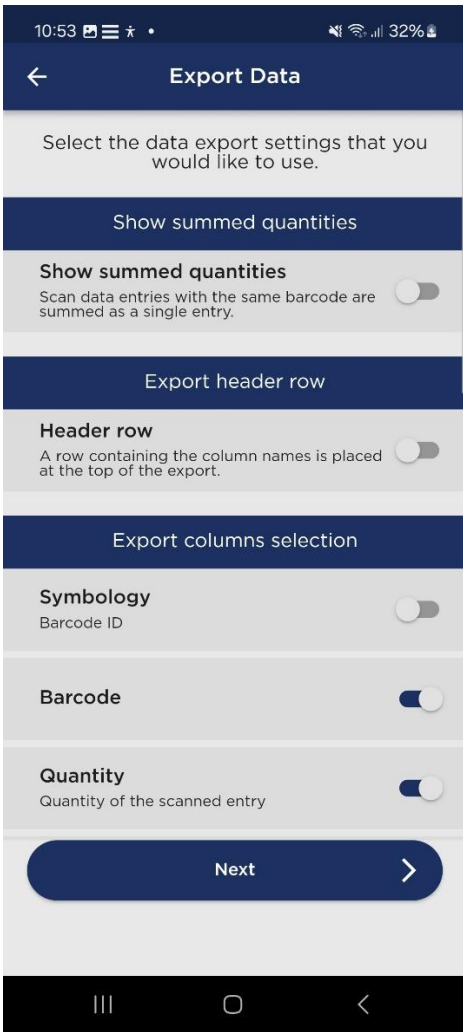
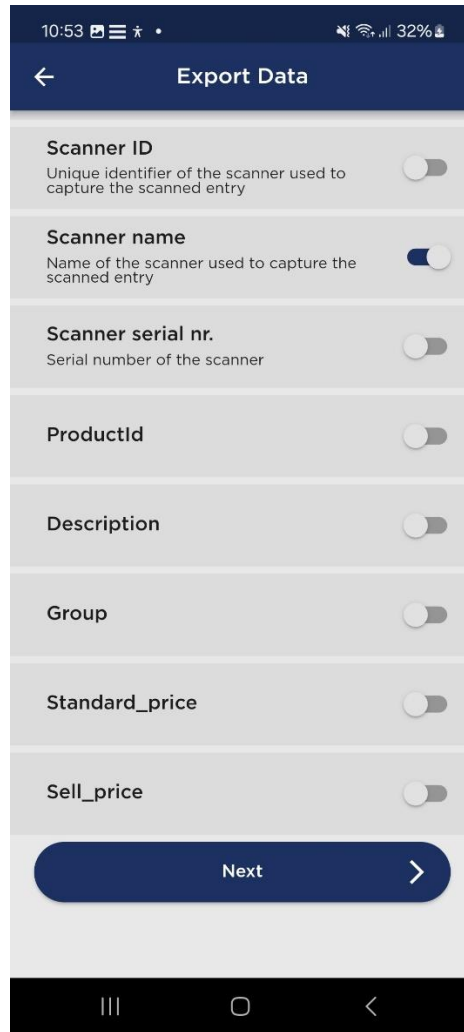

Figure 8-13: The *Export Data* page where you can configure various export data settings.
Figure 8-14: *Export Data* settings page scrolled to the bottom to display the available columns, including imported metadata columns.
- In this step, you can customize various settings for the export data on the *Export Data* page (see Figure 8-13 and Figure 8-14). The following configurations are possible: